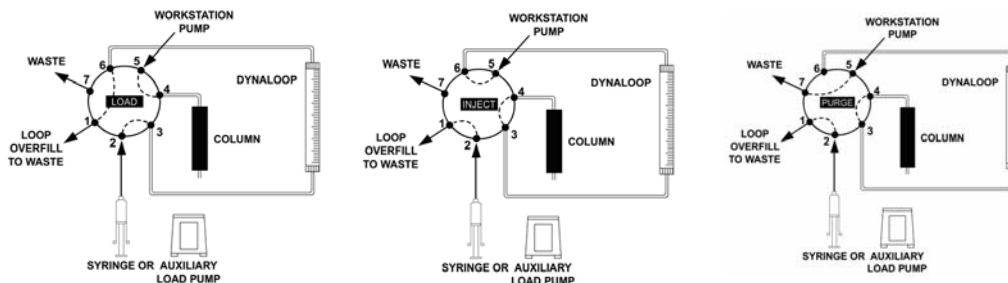

Fig. 6. Injection valve positions.
3. Connect the sample end of the DynaLoop to port 3 of the injection valve (Figure 6).
4. Connect the buffer end of the DynaLoop to port 6 of the injection valve (Figure 6).
4. Use a syringe to deliver a couple of milliliters of buffer into the injection port (port 2) until it flows smoothly from the drain tube outlet (port 1) (Figure 6).
During the run, the AVR7-3 injection valve functions as follows (Figure 6):